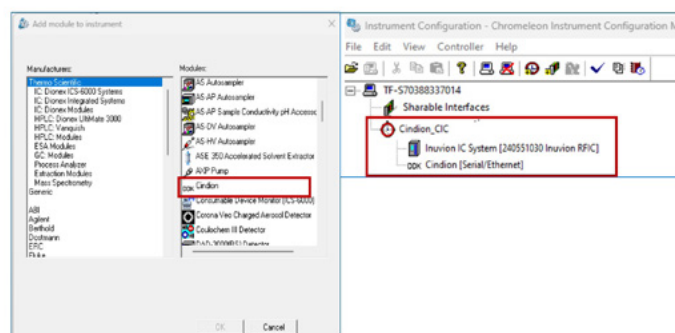

Figure 4. Chromeleon instrument configuration: Add DDK Cindion module
- Add the DDK Cindion module from the module list under Thermo Scientific (Figure 4)